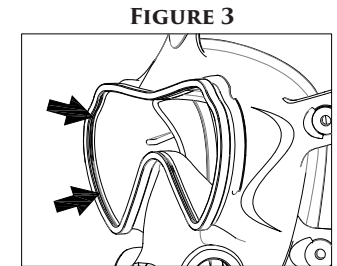

FIGURE 3
1. Inspect the skirt for any cuts or damage (Fig. 3). Pinch marks on outer surface of skirt where upper and lower frames meet is acceptable. Replace skirt if damaged.